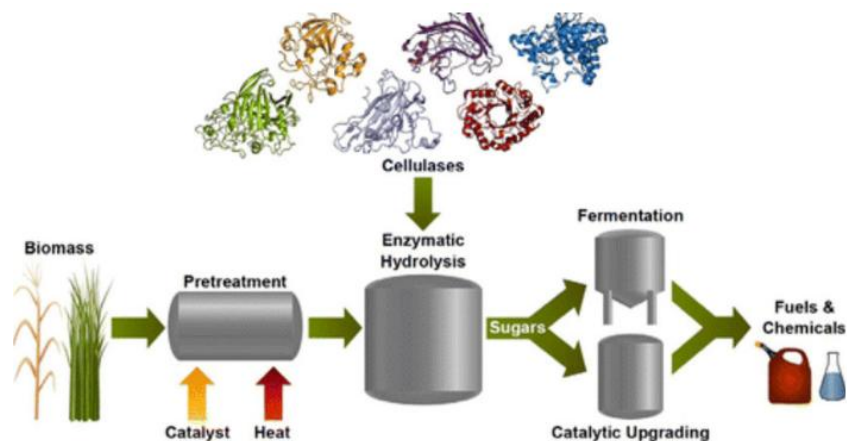

Figure-1: Overall view of a conventional biochemical conversion process to produce fuels and chemicals from lignocellulosic biomass.
- as a result, people pay much attention to biochemical conversion technologies of biomass. Overall view of the process is demonstrated by the **Figure-1**, below: